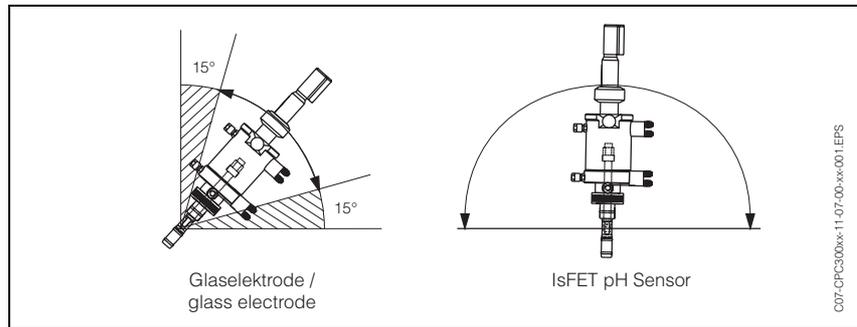

Fig. 4: Left: With glass electrodes, installation angle of at least 15° in relation to the horizontal and vertical axes
- *Glass electrode:* Install the assembly at an installation angle of at least 15° in relation to the horizontal and vertical axes (s. fig. 4).